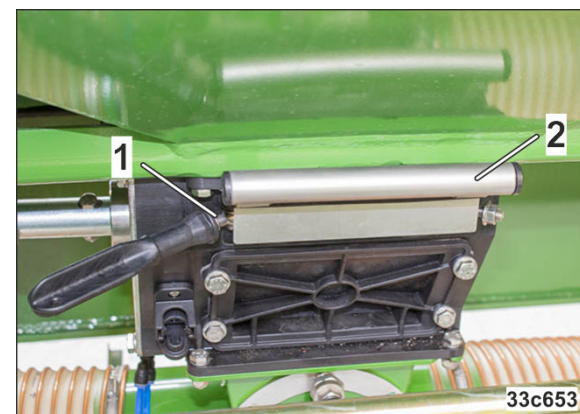

Fig. 152
3. Swivel the bolts (Fig. 152/1).
4. Push the shutter (Fig. 152/2) into the dosing unit up to the stop.